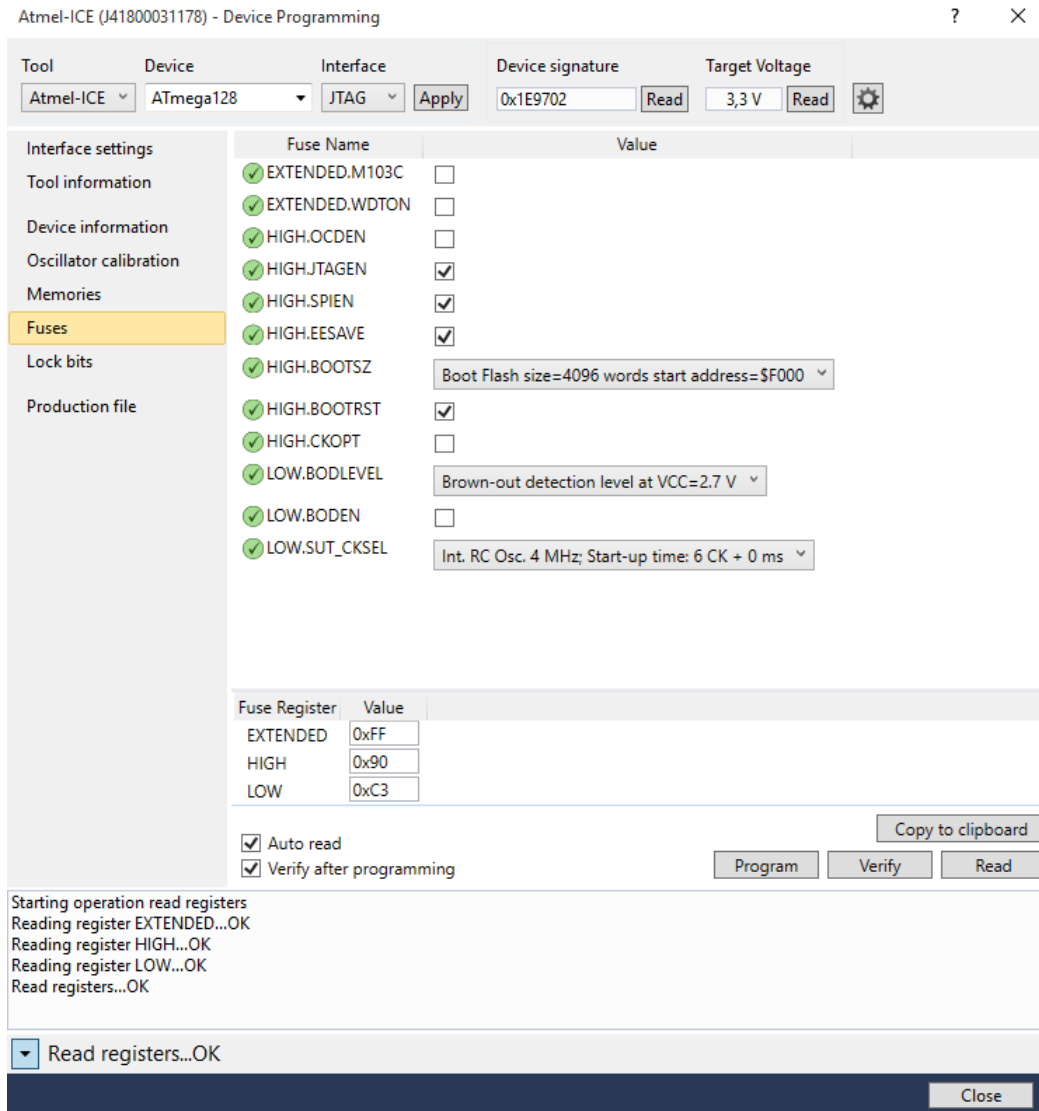

Figure 2.6: ATmega128 Fuses configuration
2. The fuses of the ATmega MCU of the MMC must be configured to get the correct clock configuration, specify the memory mapping and be able to use the UART output. In the *Tools* menu, select *Device Programming*, and click on *Apply* to connect to the AT-Mega128. Then select the *Fuses* item (*Figure 2.6*).